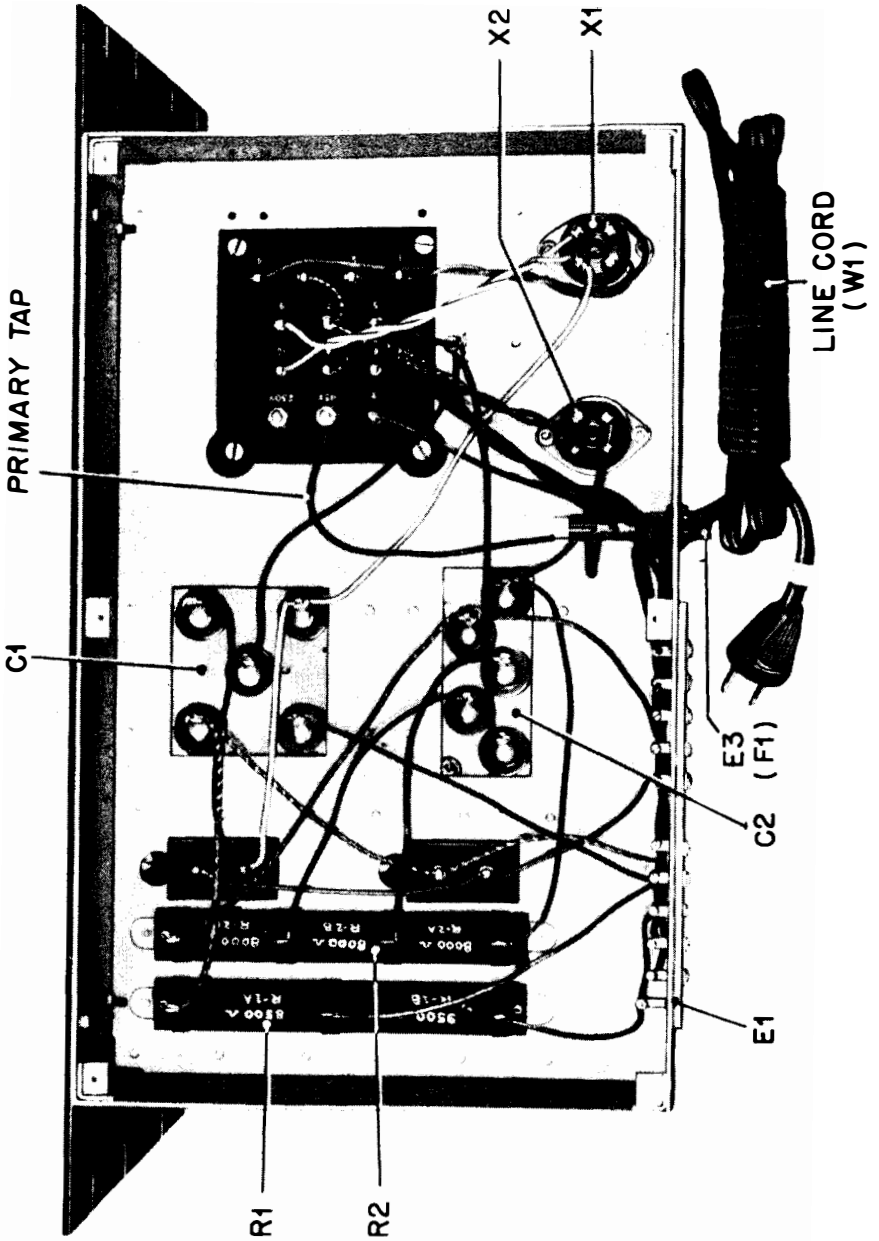

Figure 7. Power Supply Unit RA-94-A
*e. Before* plugging the power cord into the a-c power line, remove the bottom plate from the power supply unit to see that the primary tap is properly connected for the particular a-c voltage available. This primary tap connects the fuse-holder (E3) to one of the screw terminals on the power transformer, and is marked PRIMARY TAP in FIG. 7.
(1) Power Supply Unit RA-74-C has eight taps marked 95, 105, 117, 130, 190, 210, 234, and 260.